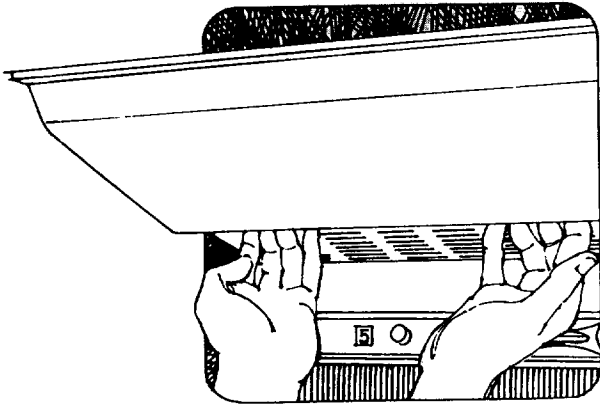

Figure 27
**The light shield in the top of the refrigerator must be removed to replace the light bulbs. To do so:** Place your hands on the back edge of the shield and pull towards you to release (this shield may have a snug fit). Drop the front edge of the shield out of the channel and remove. The light bulbs are now accessible. **To reinstall:** Engage front edge of shield into channel and snap the back edge up into position. See Figure 27 on page 16.